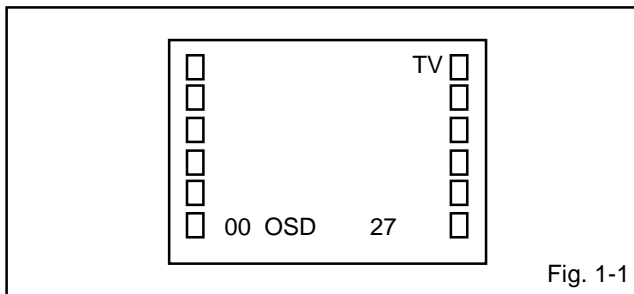

Fig. 1-1
1. In the condition of NO indication on the screen. Press the VOL. DOWN button on the set and the Channel button (9) on the remote control for more than 2 seconds to appear the adjustment mode on the screen as shown in Fig. 1-1.
3. Activate the adjustment mode display of Fig. 1-1 and press the channel button (01) on the remote control to select "CUT OFF".
4. Activate the adjustment mode display of Fig. 1-1 and press the channel button (12) on the remote control to select "R. BIAS".
10. If the picture is too much green. Activate the adjustment mode display of Fig. 1-1 and press the channel button (28) on the remote control to select "CB PED".
12. If the picture is too much red. Activate the adjustment mode display of Fig. 1-1 and press the channel button (29) on the remote control to select "CR PED".
3. Activate the adjustment mode display of **Fig. 1-1** and press the channel button **(06)** on the remote control to select "H. SIZE".
3. Activate the adjustment mode display of **Fig. 1-1** and press the channel button **(07)** on the remote control to select "V. SIZE".
3. Activate the adjustment mode display of **Fig. 1-1** and press the channel button **(08)** on the remote control to select "V. LIN".
3. Activate the adjustment mode display of **Fig. 1-1** and press the channel button **(32)** on the remote control to select "TRAPEZIUM".
3. Activate the adjustment mode display of **Fig. 1-1** and press the channel button **(03)** on the remote control to select "H.PHASE".
2. Activate the adjustment mode display of **Fig. 1-1** and press the channel button **(33)** on the remote control to select "LEVEL".
3. Activate the adjustment mode display of **Fig. 1-1** and press the channel button (**34**) on the remote control to select "SEP 1".